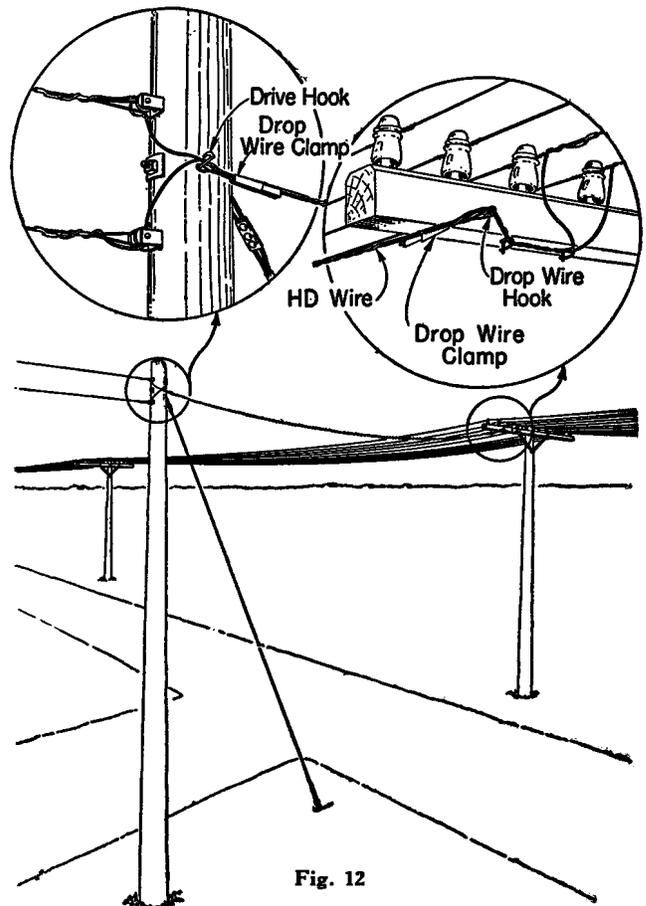

Fig. 12
4.01 When a side lead is to be connected to the main line by a span of insulated wire make the run as shown in Fig. 12.